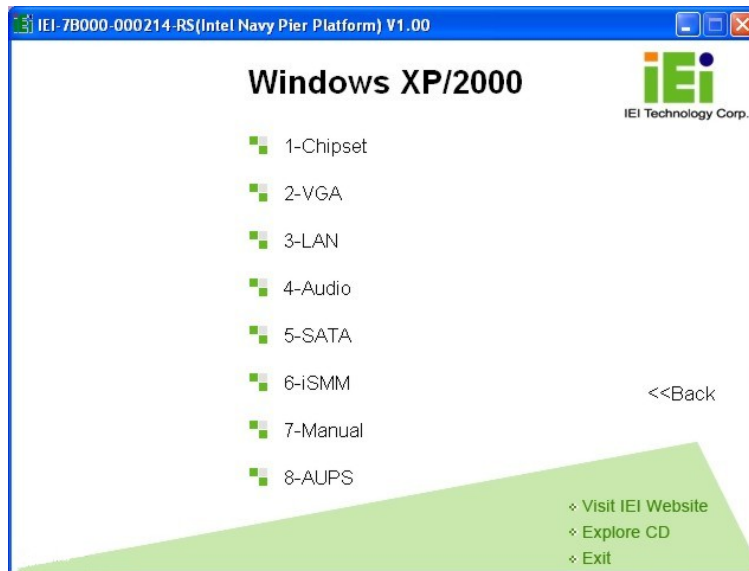

Figure 6-3: Drivers
Step 6: The list of drivers in Figure 6-3 appears.
Step 1: Access the driver list shown in Figure 6-3. (See **Section 6.2**)